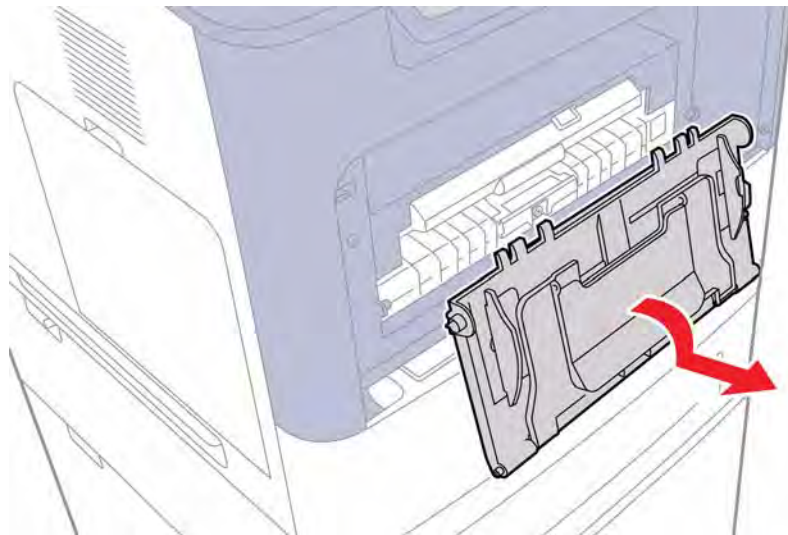

Figure 3 Remove the Tray 1 guide
4. Rotate the Tray 1 guide to its lowest point to release the guide from the Front Cover, Figure 3.